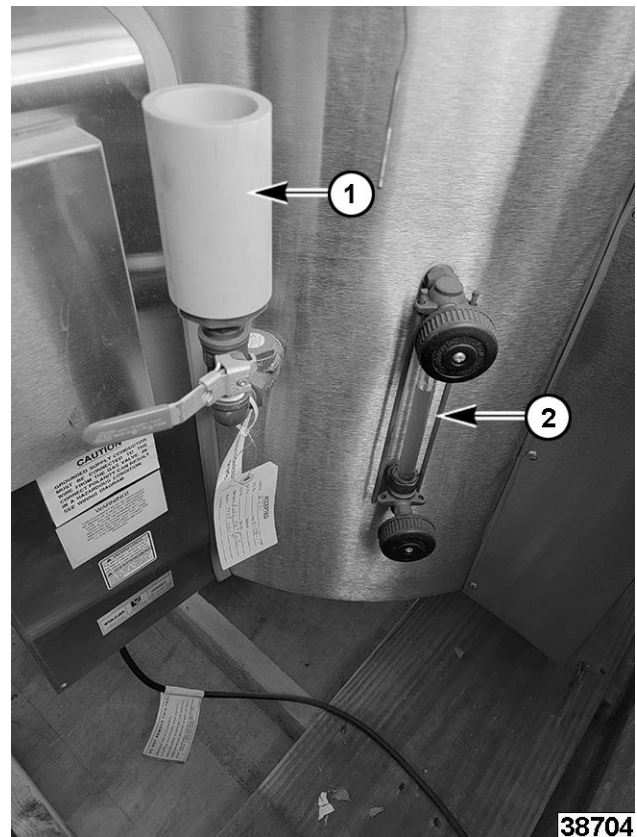

Fig. 22
2. Insert a funnel into pressure relief valve open port. (1, Fig. 22).
3. Drain all water from kettle jacket by removing drain plug located by draw off valve. Water level gauge will show when jacket is empty. (2, Fig. 22)